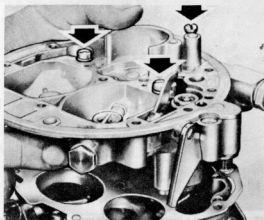

Fig. 3.25. Removing the jet housing assembly - Zenith carburettor (Sec. 9)
- 4 Disconnect the accelerator pump linkage and the three retaining screws, and remove the jet housing assembly from the float body (see Fig. 3.25).